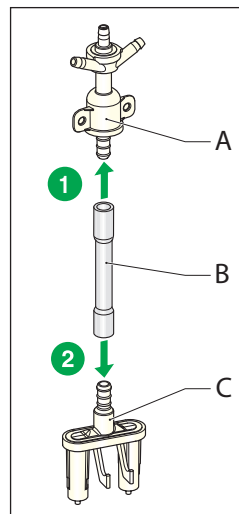

Fig. 3
- 1 Separate parts A and B of the cappuccino maker nozzle from one another. (Fig. 3)
- 2 Separate parts B and C from one another. (Fig. 3)